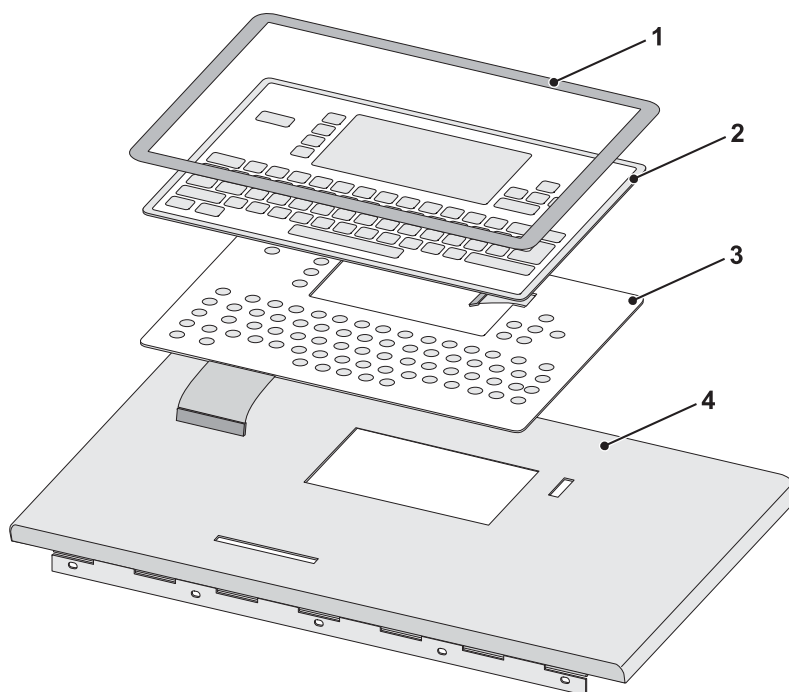

Figure 8-9. Replacing the keypad, part 2
- 5 Peel off the backing of a new keypad membrane (Item 3 in Figure 8-9). Insert the two attached ribbon cables through the slots in the compartment door. Carefully line up and the membrane and press it into place.